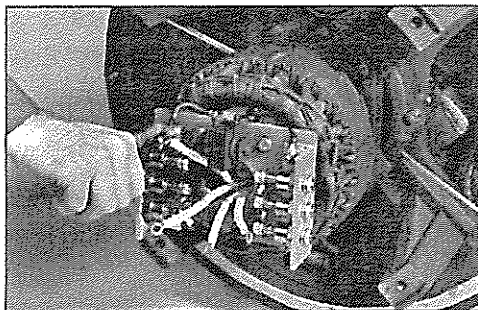

Figure 6-74
2. Observe the polarity markings and connect the main rotor leads to the rectifier assembly (figure 6-74). Torque the nuts to 4 ft-lb (5.4 N-m).